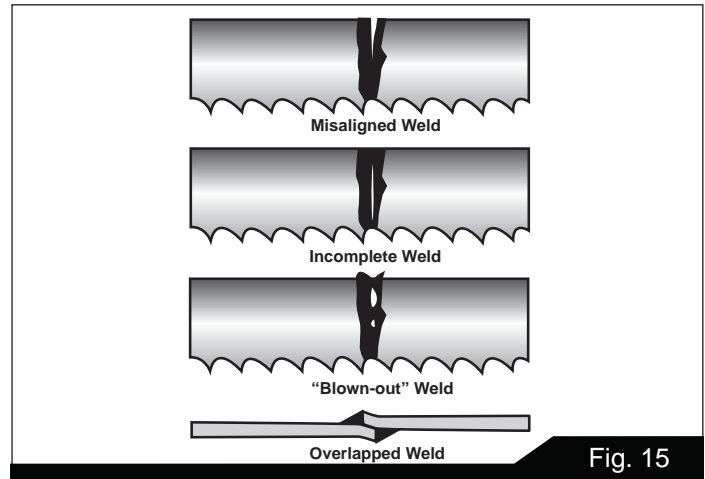

Fig. 15
- Remove blade from clamps, and carefully inspect it. The spacing of the teeth should be uniform and the weld should be located in center of gullet. Misalignment is easily noted at this time from the weld appearance. See Figure 15 for examples of incorrect welds.